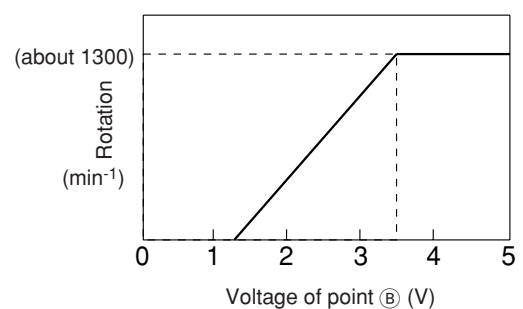

Fig. 6-3
- This pulse changes to analog voltage by R751 and C751 and it is applied to the fan motor as instruction voltage number of rotations. The relationship between the voltage of point ② and number of rotations becomes as shown in Fig. 6-3. (The gap may arise depending on the condition of unit.)
- The feedback pulse of number of rotation is output from the fan motor and input to microcomputer pin ⑤⑤. The frequency of this pulse is $12/60$ of the number of rotations. (Ex: $1000\text{min}^{-1} \times 12/60 = 200\text{Hz}$) The micro computer observes this frequency and to make it as the instruction number of rotation all the time, adjusts the output pulse width of pin ⑤④.